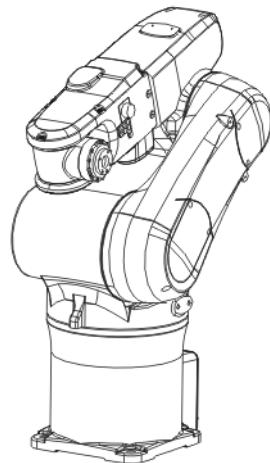
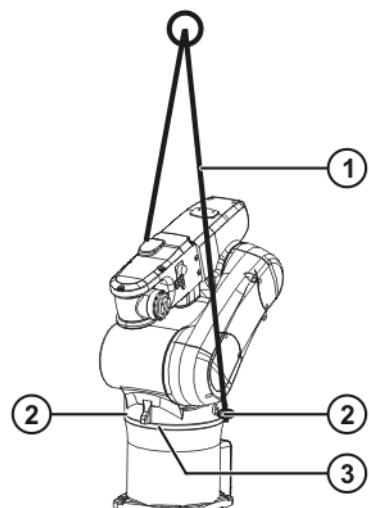

Fig. 7-1: Transport position
Fig. 7-4: Lifting tackle
The robot must be in the transport position (>>> Fig. 7-1) before it can be transported. The robot is in the transport position when the axes are in the following positions:
A floor-mounted robot can also be transported using lifting tackle. The robot must be in the transport position (>>> Fig. 7-1). The lifting tackle (>>> Fig. 7-4) is attached to 2 eyebolts screwed into the base frame.
3. Move the robot into its transport position (>>> Fig. 7-1).